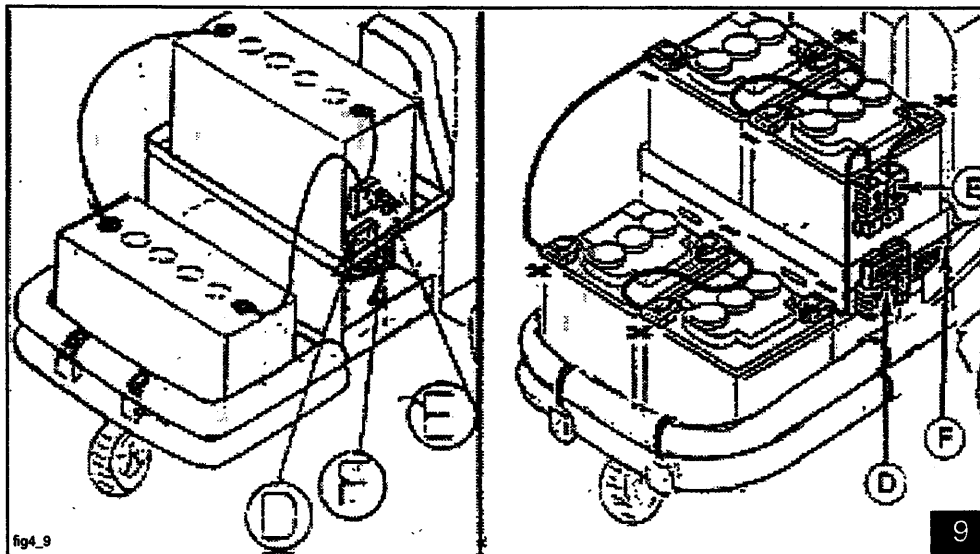

fig4_9
4.5. HANDLE - INSTALLATION (fig. 4)
Drainage (fig. 4)